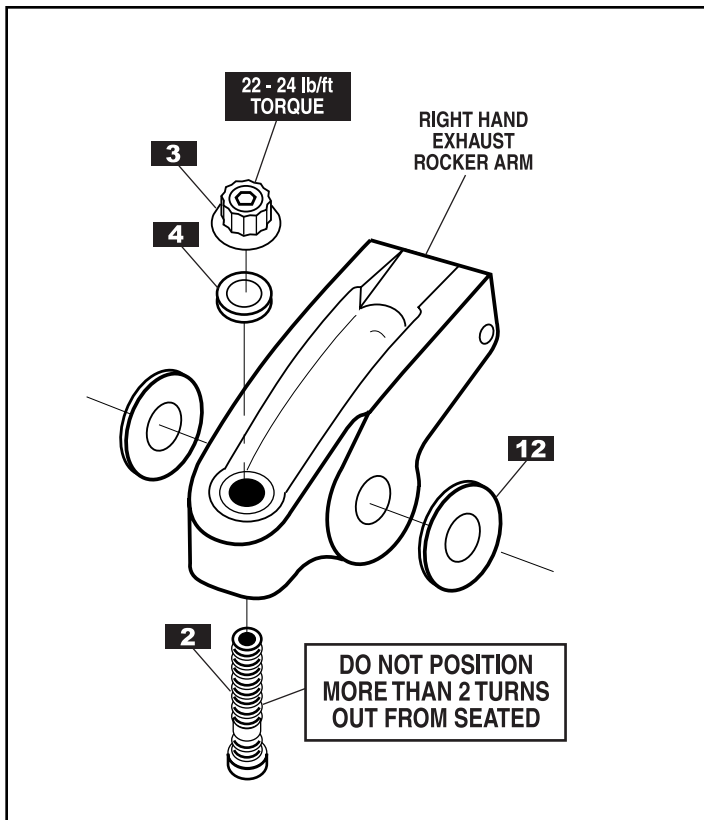

Figure 4.
6. Lubricate the **pushrod seat adjuster** threads (Item # 2, Part # 7875ASP) and install them in the rockers from the bottom side. Screw in until the adjuster **bottoms** in the recess in the rocker body and then **back out one full turn from seated**. See Figure 4.
7. On the top of the rocker body, install the **thin washer** (Item #4, Part # 7865B) and **adjuster jam nut** (Item # 3, Part # 99785JNP) and lightly snug. See Figure 4.